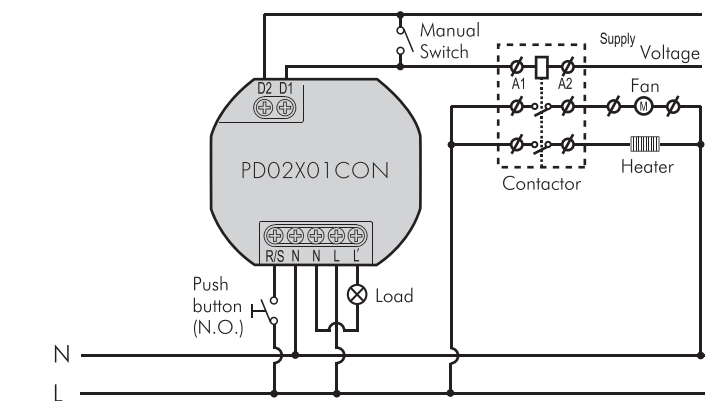
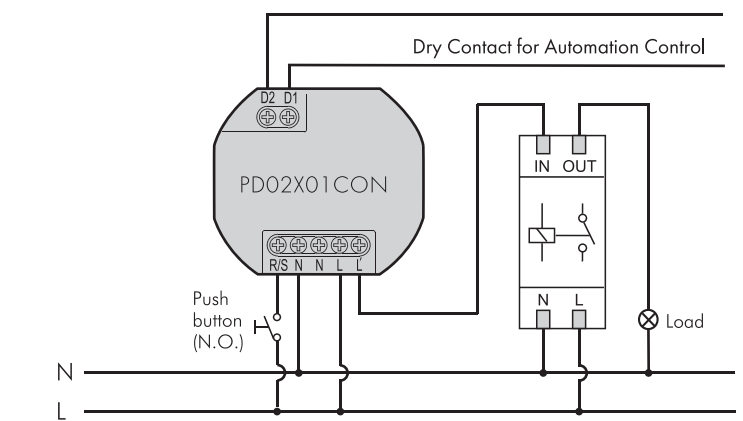
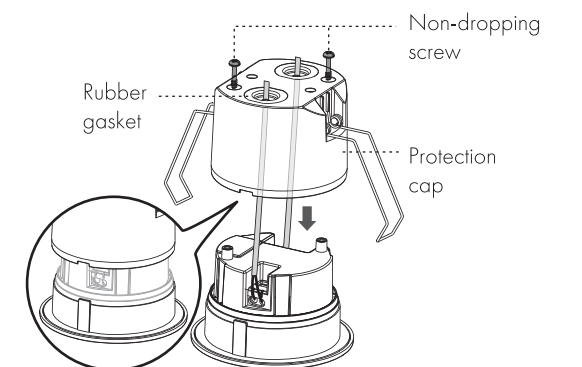

FIG.5
FIG.6
FIG.8
3.3.1.1 Normal operation (See FIG.5)
3.3.1.2 Staircase timer switch controlled by one detector (Time1 should be set to $\sqrt{1s}$, See FIG.6)
3.4.2 Use screwdriver to break the rubber gasket, then feed cables through it (See FIG.8).
3.4.3 Please refer to illustration of FIG.5 - FIG.6 for correct wiring and get the gap of the protection cap to be aligned with the bulge of housing (See FIG.8), then screw the protection cap and fit on the cable clamp.